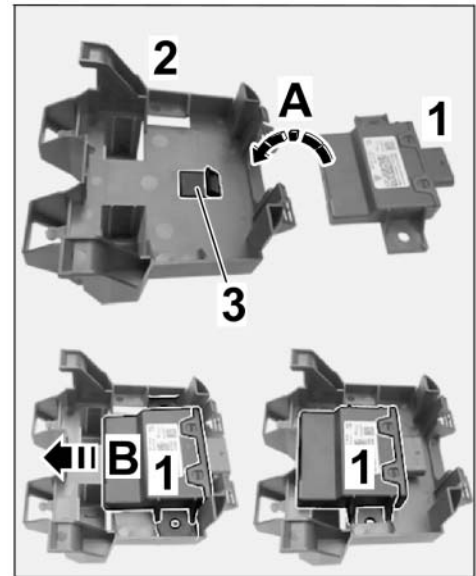

Figure 12
2.1.2 Insert the engine noise control unit at the underside in the control unit holder (⇒ *Figure 12-A-*).
2.1.3 Push the engine noise control unit in the holder to the opposite side of the plug connection (⇒ *Figure 12-B-*) until control unit engages in the holder.